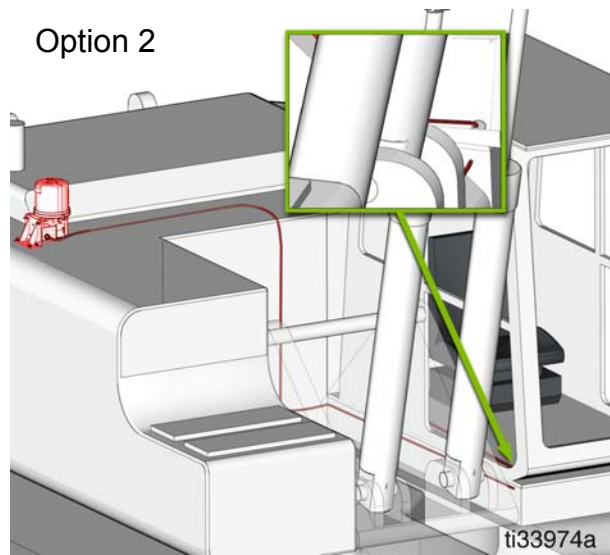

FIG. 15
- The deck plate that surrounds the cab is the preferred installation location (FIG. 15). The deck plate is a non-critical component and therefore drilling through the deck plate is generally acceptable by most manufacturers. However, if this location is not acceptable due to durability or space constraints, identify an alternate location around the cab such as below the ladder, in the engine compartment or on the frame.